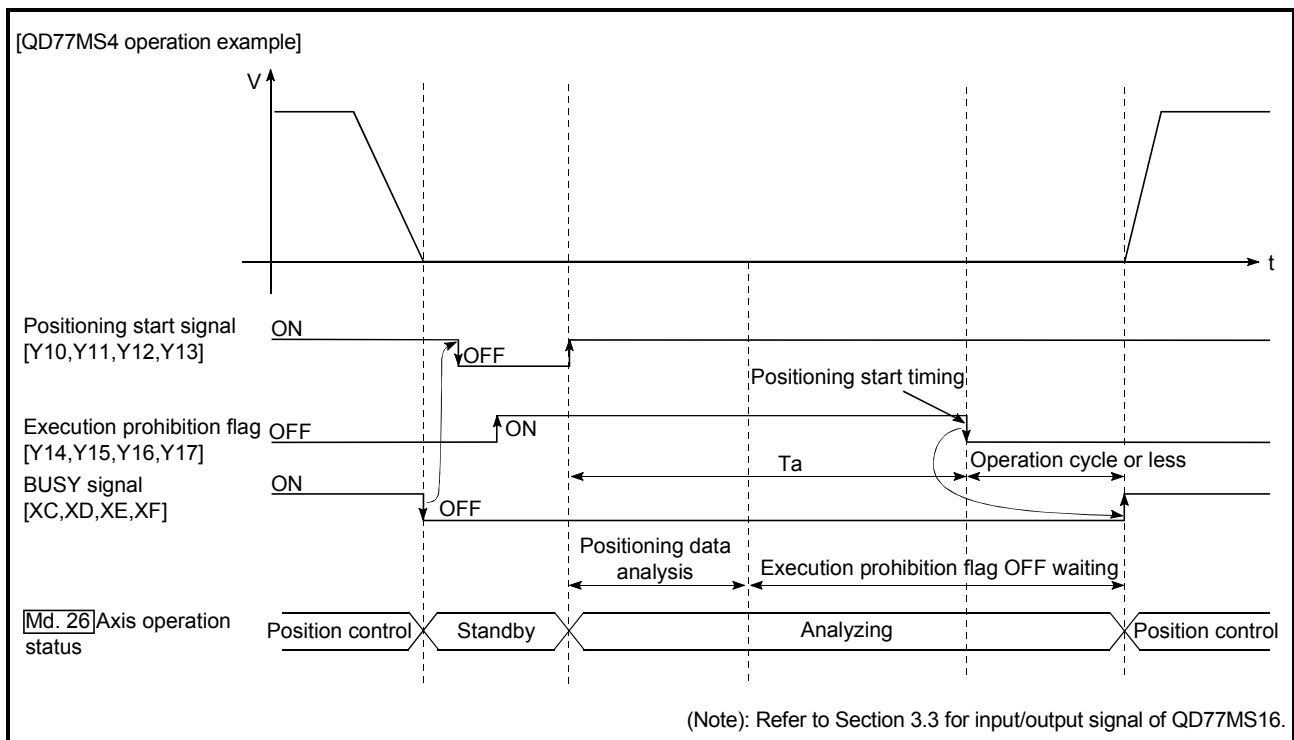

Fig. 13.46 Operations of pre-reading start function
The pre-reading start function is performed by turning ON the positioning start signal with the execution prohibition flag ON, or by executing the dedicated instruction (ZP.PSTR1, ZP.PSTR2, ZP.PSTR3, and ZP.PSTR4). However, if positioning is started with the execution prohibition flag ON, the positioning data is analyzed but servo start is not provided. While the execution prohibition flag is ON, "[Md.26] Axis operation status" remains unchanged from "5: Analyzing". The servo starts within operation cycle after the execution prohibition flag has turned OFF, and "[Md.26] Axis operation status" changes to the status (e.g. position control, speed control) that matches the control method. (Refer to Fig.13.46)
- (1) The time required to analyze the positioning data is up to 0.88ms (QD77MS2/QD77MS4)/3.55ms(QD77MS16).
- (2) After positioning data analysis, the system is put in an execution prohibition flag OFF waiting status. Any change made to the positioning data in the execution prohibition flag OFF waiting status is not reflected on the positioning data. Change the positioning data before turning ON the positioning start signal.
- (3) The pre-reading start function is invalid if the execution prohibition flag is turned OFF between when the positioning start signal has turned ON and when positioning data analysis is completed ($T_a < \text{start time}$, T_a : Refer to Fig. 13.46).
- (4) The data No. which can be executed positioning start using "[Cd.3] Positioning start No." with the pre-reading start function are No. 1 to 600 only. Performing the pre-reading start function at the setting of No. 7000 to 7004 or 9001 to 9004 will result in the error "Outside start No. range" (error code: 543).
- (5) Always turn ON the execution prohibition flag at the same time or before turning ON the positioning start signal. Pre-reading may not be started if the execution prohibition flag is turned ON during T_a after the positioning start signal is turned ON. The pre-reading start function is invalid if the execution prohibition flag is turned ON after positioning start with the execution prohibition flag OFF. (It is made valid at the next positioning start.)